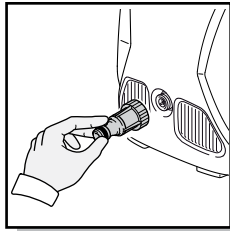
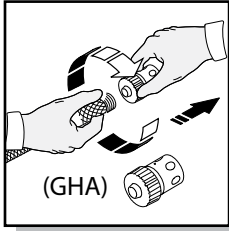
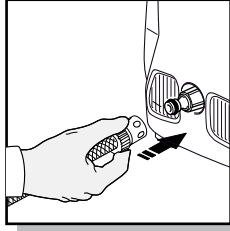

Fig. 12
Fig. 13
Fig. 14
- First, remove the plastic shipping cover on the water inlet on the front of the power washer. Attach the clear plastic adapter by screwing it into the water inlet (Fig. 12). Hand tight is fine. Next screw on the blue/black collar attachment to your garden hose (Fig. 13). Slide the blue/black collar onto the clear adapter (Fig. 14), it will “click” into place. The water is now connected to your power washer.